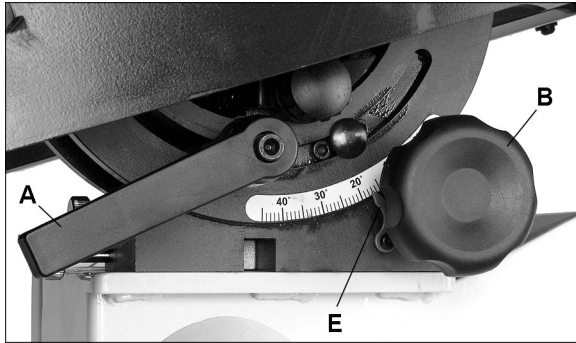
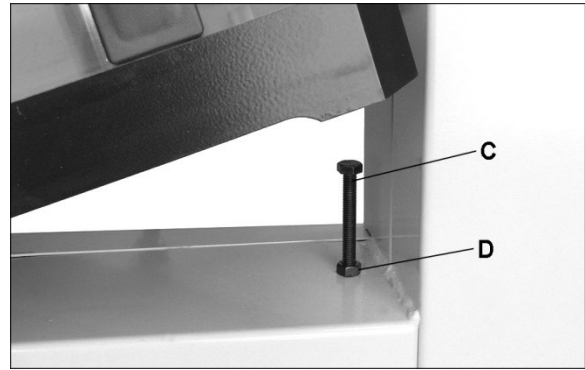

Figure 15
Figure 16
Refer to Figure 15.
1. Loosen lock handle (A).
2. For *right tilt* (as viewed from front or operator's side of saw), push on table while rotating knob (B) clockwise to tilt table up to 45°. Use knob (B) for fine adjustment.
3. For *left tilt* (as viewed from front or operator's side of saw), loosen lock lever (A) and rotate knob (B) clockwise a turn or two to release pressure on the 90° stop bolt (shown in Figure 16). Remove stop bolt, then rotate knob to tilt table up to 15°.
4. Tighten lock handle (A) to secure setting.
Refer to Figures 16 and 17.
5. If table and blade are not square, use a 13mm wrench to loosen lock nut (D, Figure 16) then rotate stop bolt. Turn stop bolt as needed until there is no longer light showing between square and blade.
6. Tighten lock nut (D) to secure table stop in position.
7. Tighten lock handle (A, Figure 15).
8. Check that scale pointer (E, Figure 15) is at zero. If necessary, loosen screw on pointer and shift pointer to zero. Re-tighten screw.